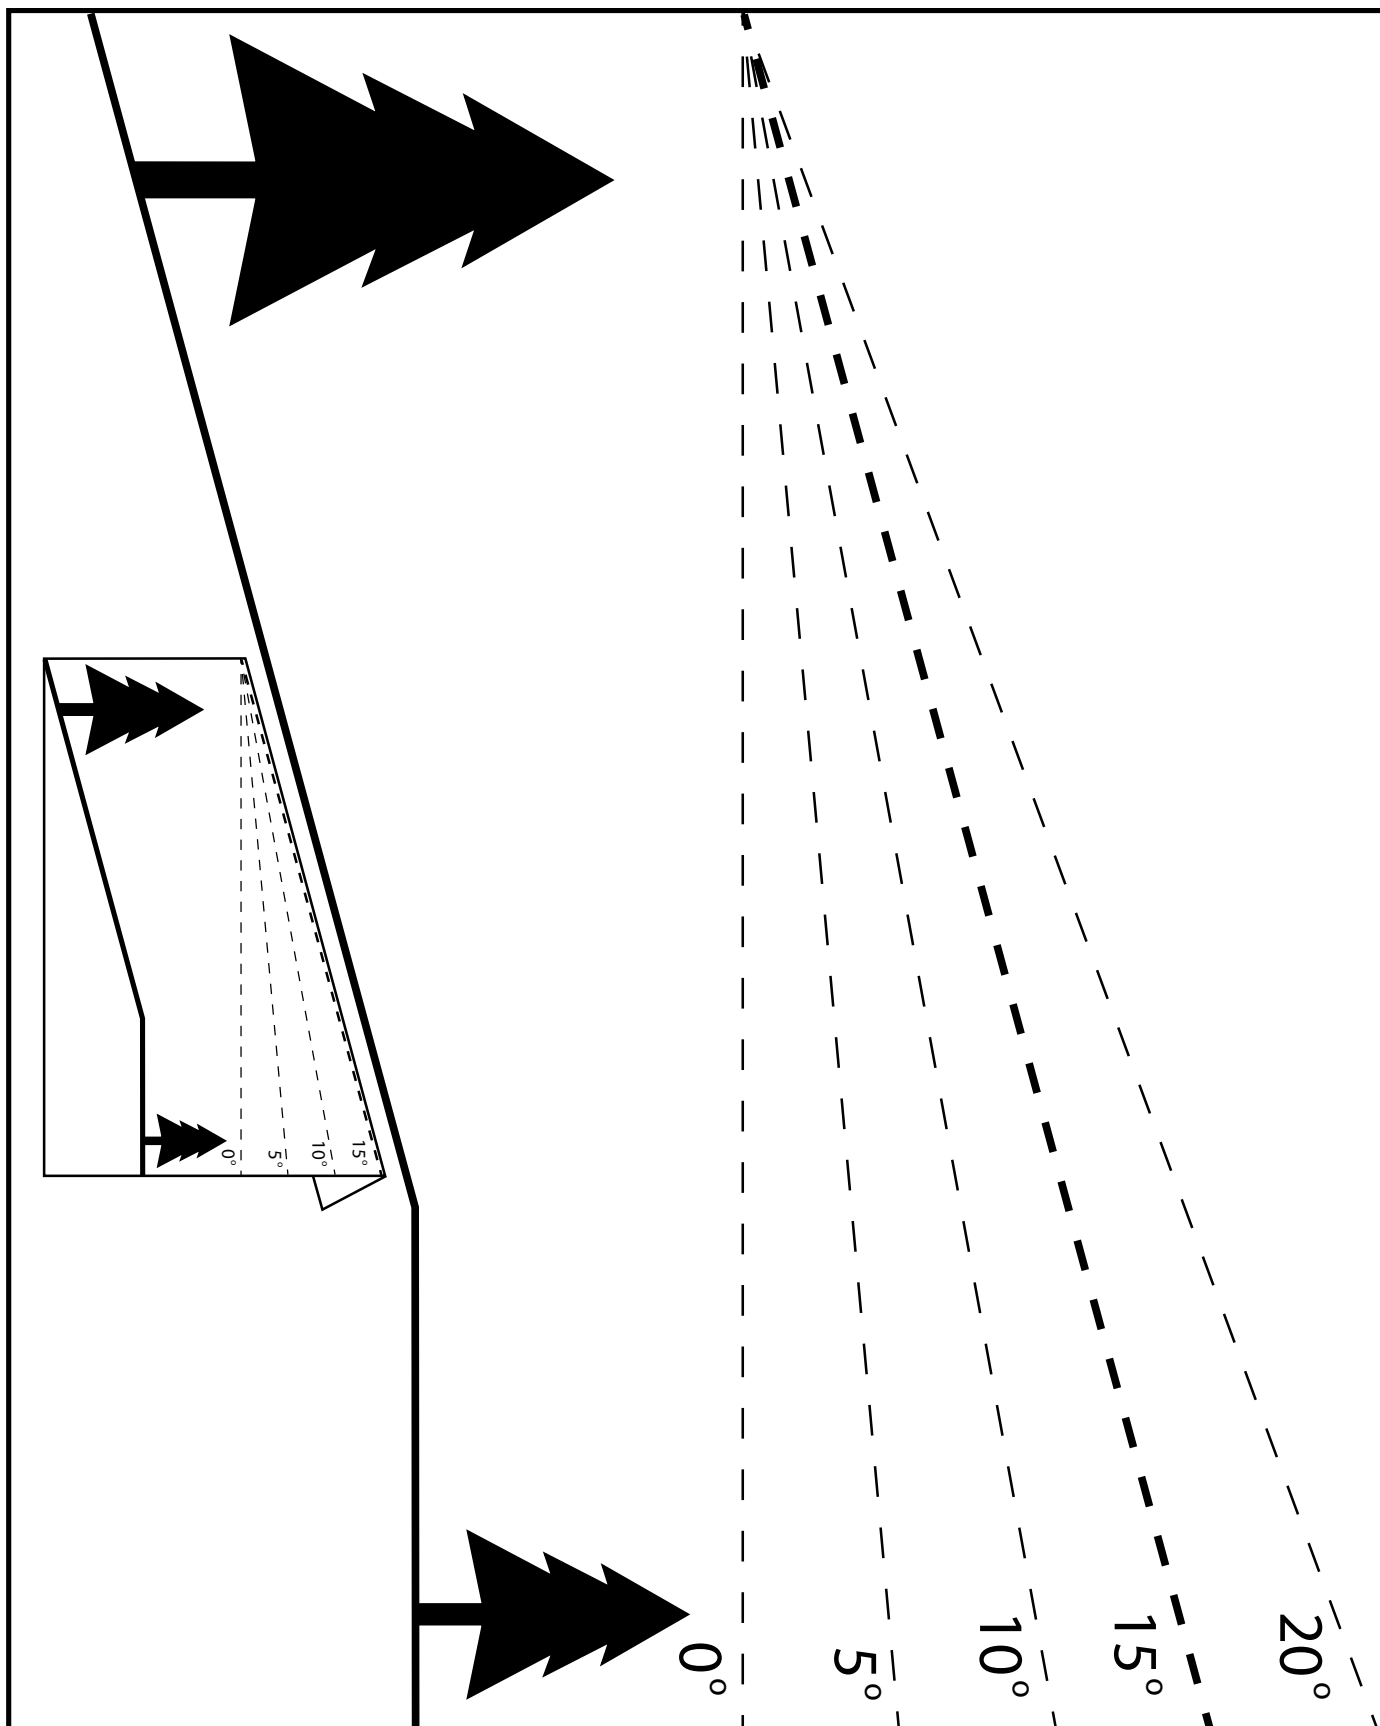

Figure 2-5. Slope Angle Graph
20. Be cautious when loading and unloading onto trailers or trucks. Use only a full width ramp. Ramp angle should be no more than 15 degrees. See Figure 2-5 to determine approximate slope of the ramp. Back up the ramp and drive down forward.
Stay off of slopes too steep for safe operation. To check a slope, attempt to back up it (with the cutter deck down). If the machine can not back up the slope without the wheels slipping, do not operate the machine on this slope. Under no circumstances should the machine be operated on slopes greater than 15 degrees. See Figure 2-5, Page 11 to determine approximate slope or use a flat surface and an app on your cell phone. Reference the Safety Video using the QR Code in section 2.1.
Ramp angle should be no more than 15 Degrees. See Figure 2-5, Page 11 to help determine approximate slope or use a flat surface and an app on your cell phone. Reference the Safety Video using the QR Code in section 2.1.